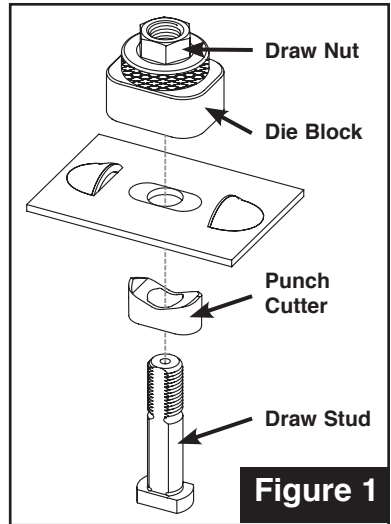

Figure 1
2. Install slot punch and draw-stud as shown through pilot hole in material to be punched. **See Figure 1.**